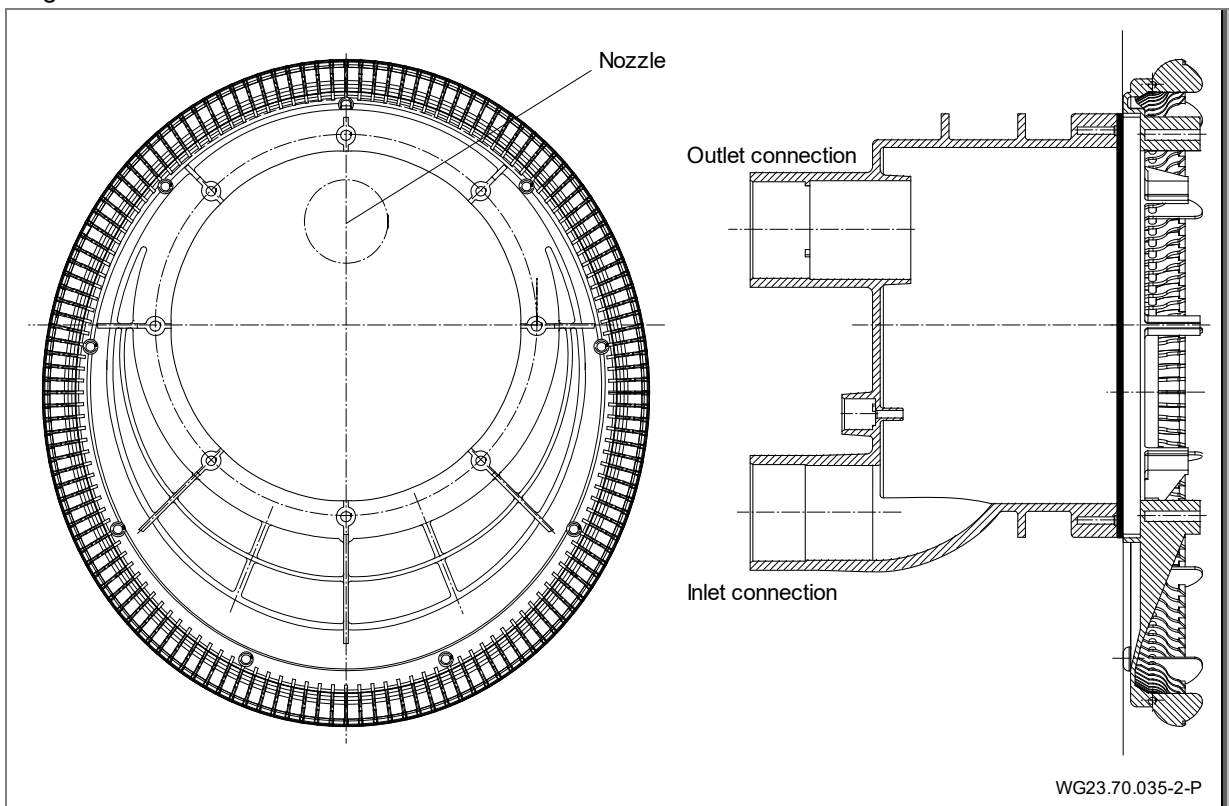
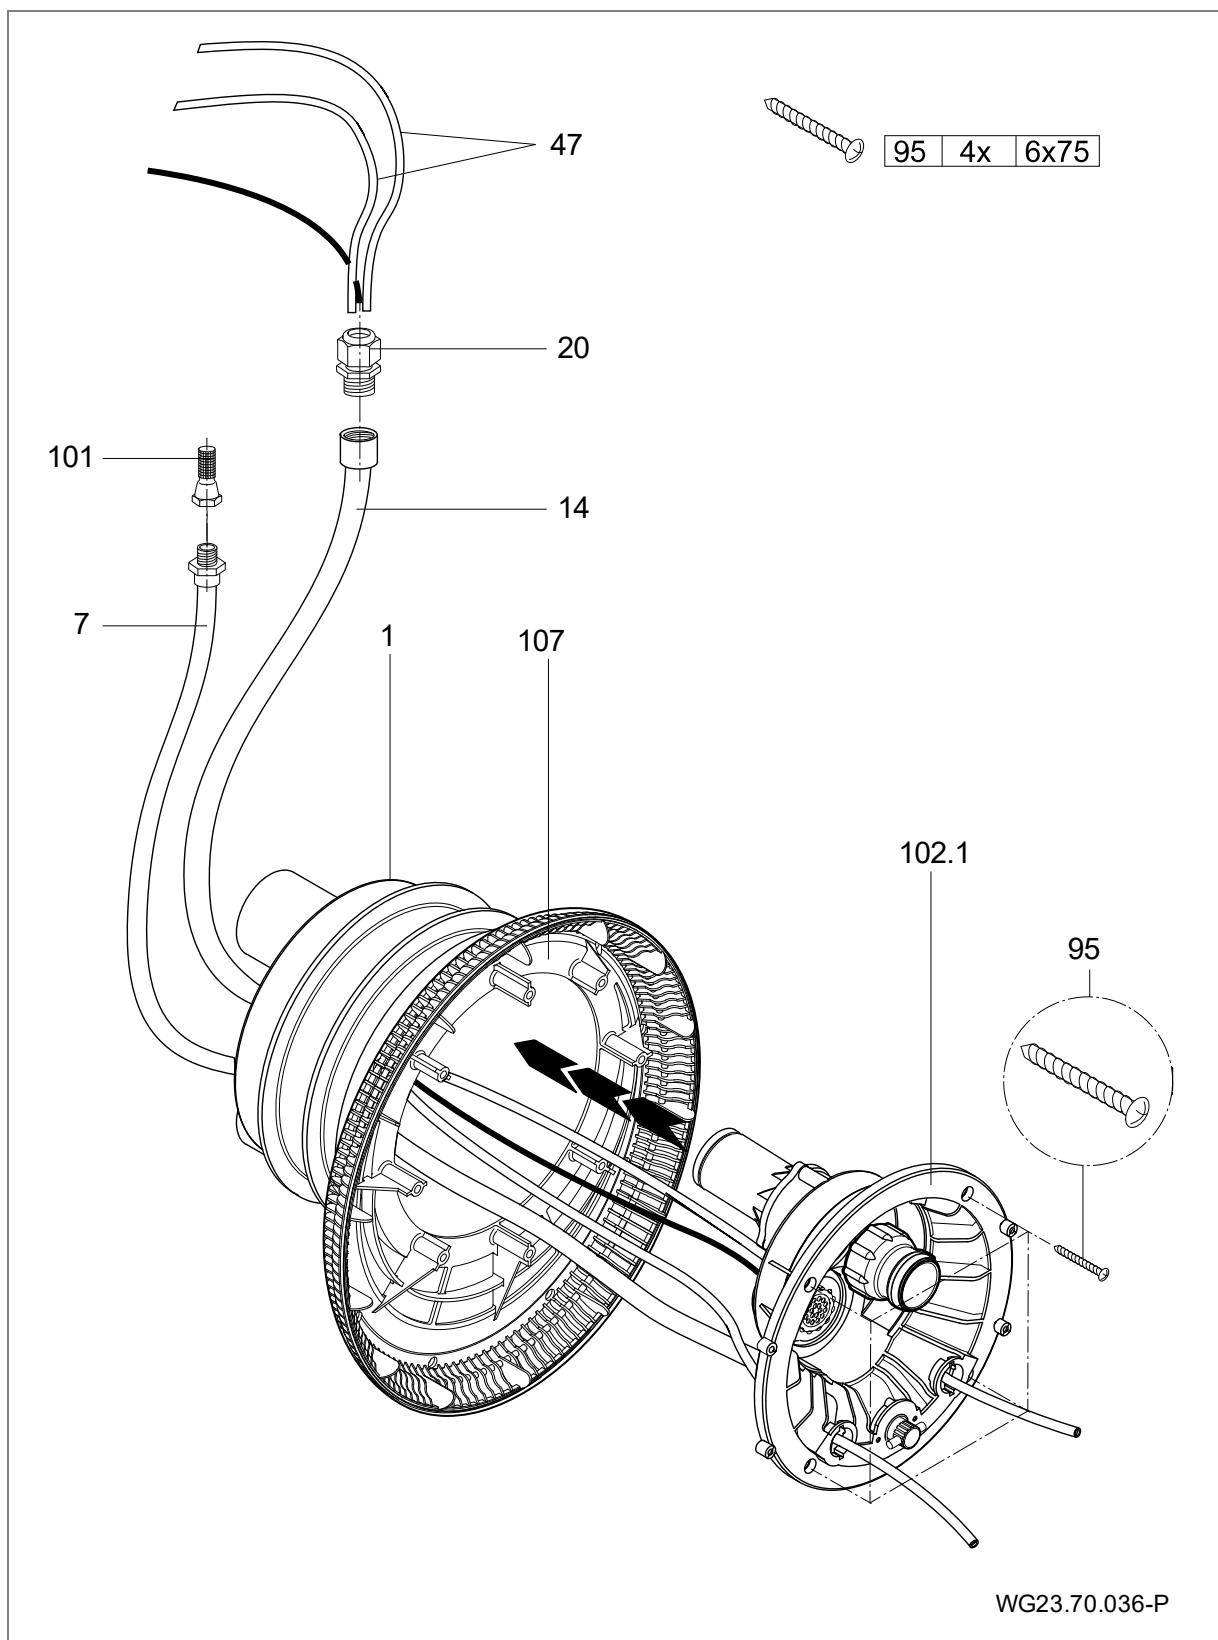

Fig. 17
Fig. 18
2. Position the suction housing (107) on the clamp ring. Pay attention to the mounting position. (Fig. 17)
3. Position the nozzle housing (102.1) on the main housing (1).
4. Lead the pneumatic hoses (47) and floodlight cables through the protective conduit (14) and seal with the cable gland (20).
5. Attach the air pipe to the air regulator (21), assembled on site, with a clamp (8).
6. Attach the nozzle housing (102.1) to the main housing (1) with four tapping screws (95). (Fig. 18)